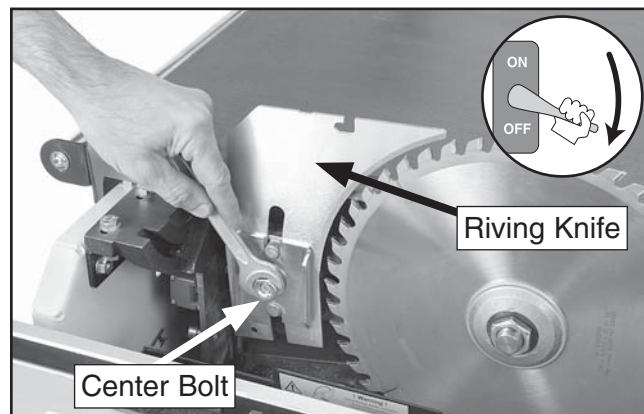

Figure 23. Installing the riving knife.
- Slide the table all the way backward, open the blade guard, then loosen the riving knife center bolt. Slide the riving knife over the bolt as shown in **Figure 23**, and slightly tighten.